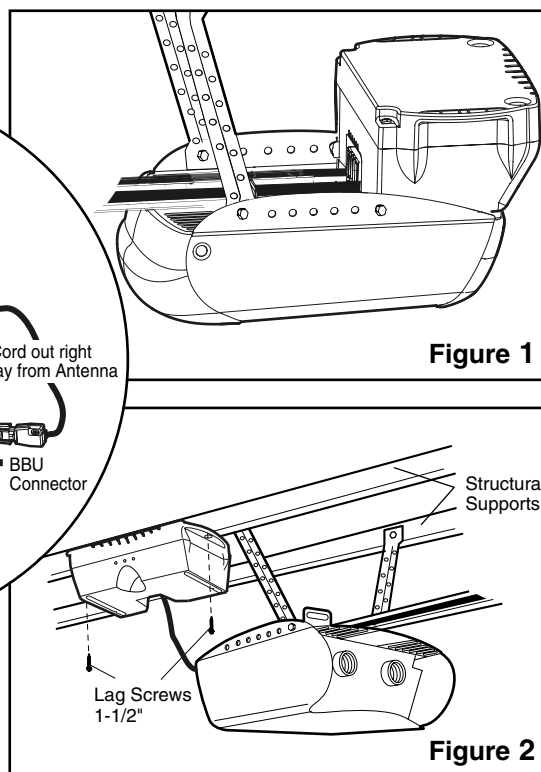

Figure 2
- After the motor unit has been installed, position the BBU above the motor unit to a structural support (joist) within BBU's cord length of 3' (.91 m) (Figure 2).